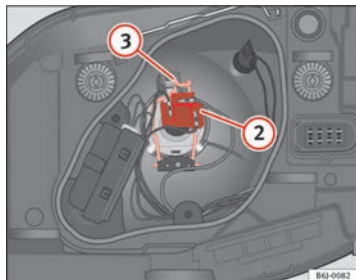

Fig. 151 Dipped beam/main beam, single headlight
- Remove the connector ⇒ fig. 151 ② from the bulb.
- Unclip the retainer spring ⇒ fig. 151 ③ pressing inwards to the right.